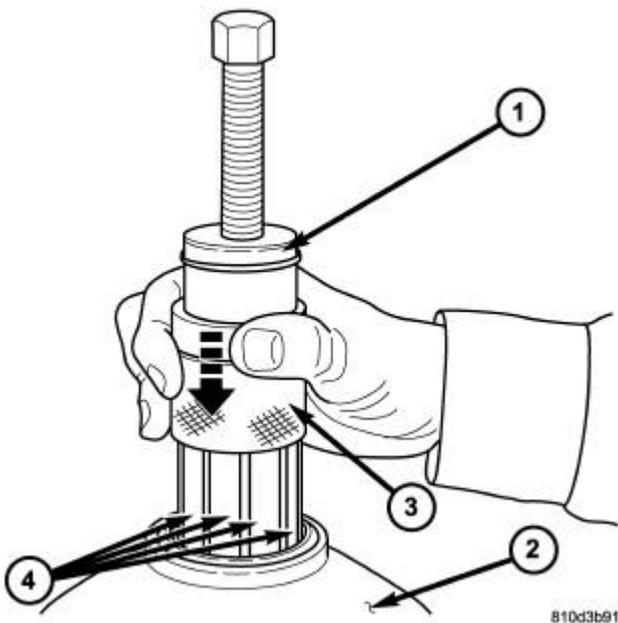

Fig. 65: Slide Remover 9082A Collar Downward
- Slide the collar (3) on the Bearing Remover (special tool #9082A, Remover, Bearing) (1) downward over the fingers (4) of the tool. Refer to **Fig. 65**.